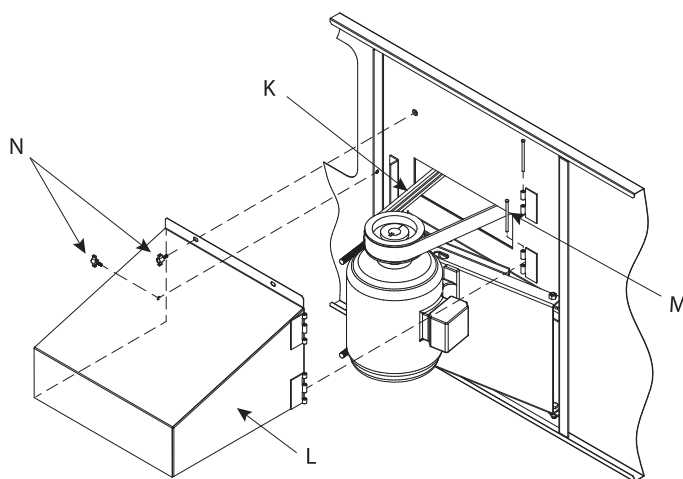

Figure 17b - Motor Guard and Power-Band Belt Installation
7. Install Power-Band belt **K** (Figure 17b) around fan sheave and motor sheave. Tighten belt by adjusting nuts on "J" bolts. Do not overtighten the belts. The center of the belt should deflect approximately 3/4" in the horizontal plane with moderate hand pressure.
10. To install motor guard **L**, match up hinges and install hinge pins **M** as shown in Figure 17b.